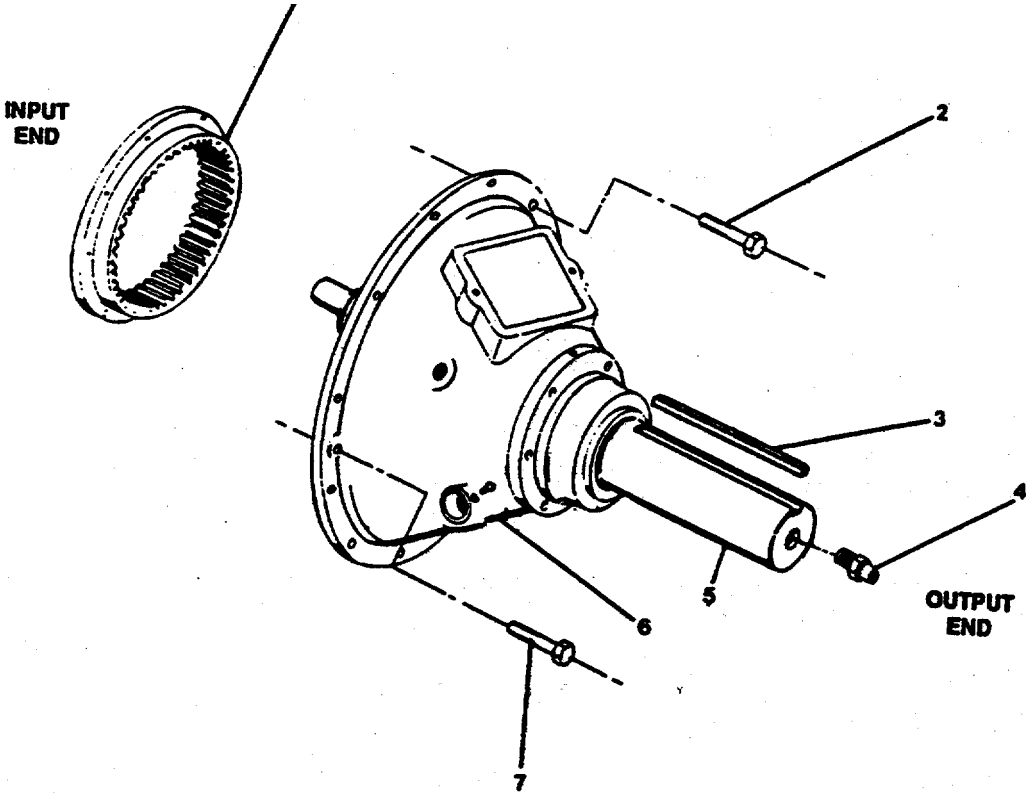

FIGURE 3-59. Friction Clutch Assembly (SP-214-P1).
- a. Remove the shaft key (3, FIGURE 3-59) and hydraulic grease fitting (4) from OUTPUT END of clutch shaft (5).
- b. Remove twelve hex-head capscrews (2) securing clutch housing (6) to the engine.
- c. Use two 7/16-14 pusher screws (7) in the tapped holes provided in the clutch housing (6) flange and remove the friction clutch assembly.
- a. If the driving ring (1, FIGURE 3-59) was removed, install it to the flywheel with the eight capscrews. Tighten the capscrews to 80 ft-lb torque.
- b. Position the clutch housing (6) against the engine flywheel housing, carefully aligning the pilot bearing (2, FIGURE 3-60, Sheet 1) with the flywheel pilot and the clutch driving plates with the driving ring (1, FIGURE 3-59).
- c. Secure the clutch housing (6) to the flywheel housing with 12 hex-head capscrews (2). Tighten to 80 ft-lb torque. Rap the output end of the shaft with a soft hammer to relieve any preloading on the bearings.
- d. Install the shaft key (3) in the clutch shaft.